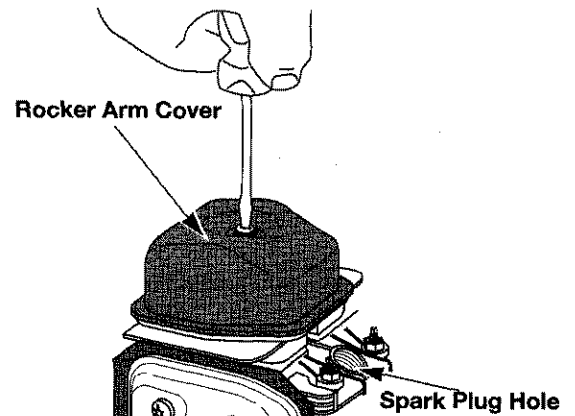

Fig. 33
6. Remove the screw holding the rocker arm cover with a large flat blade screwdriver or Torx T25 bit (Fig. 33). Remove the rocker arm cover, and gasket.
- While looking in the spark plug hole (Fig. 33), the piston is at the top of the stroke.